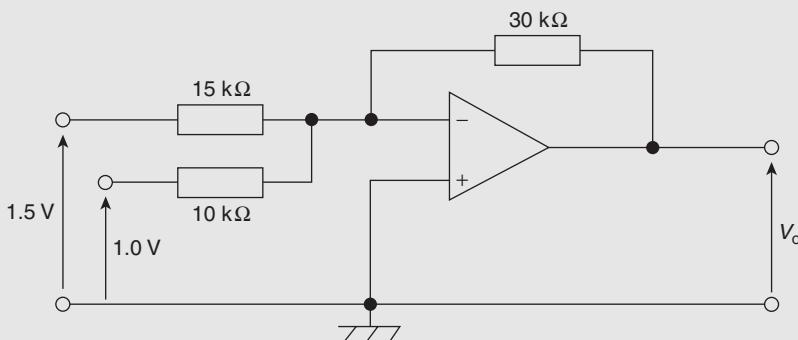

Figure RT5.1
- The power taken by a series inductive circuit when connected to a 100 V, 100 Hz supply is 250 W and the current is 5 A. Calculate (a) the resistance, (b) the impedance, (c) the reactance, (d) the power factor, and (e) the phase angle between voltage and current. (9)
- A coil of resistance 20 Ω and inductance 200 mH is connected in parallel with a 4 μF capacitor across a 50 V, variable frequency supply. Calculate (a) the resonant frequency, (b) the dynamic resistance, (c) the current at resonance, and (d) the Q-factor at resonance. (10)
- A series circuit comprises a coil of resistance 30 Ω and inductance 50 mH, and a 2500 pF capacitor. Determine the Q-factor of the circuit at resonance. (4)
- The winding of an electromagnet has an inductance of 110 mH and a resistance of 5.5 Ω . When it is connected to a 110 V, d.c. supply, calculate (a) the steady state value of current flowing in the winding, (b) the time constant of the circuit, (c) the value of the induced e.m.f. after 0.01 s, (d) the time for the current to rise to 75 per cent of its final value, and (e) the value of the current after 0.02 s. (11)
- A single-phase motor takes 30 A at a power factor of 0.65 lagging from a 300 V, 50 Hz supply. Calculate (a) the current taken by a capacitor connected in parallel with the motor to correct the power factor to unity, and (b) the value of the supply current after power factor correction. (7)
- For the summing operational amplifier shown in Figure RT5.1, determine the value of the output voltage, V_0 (3)